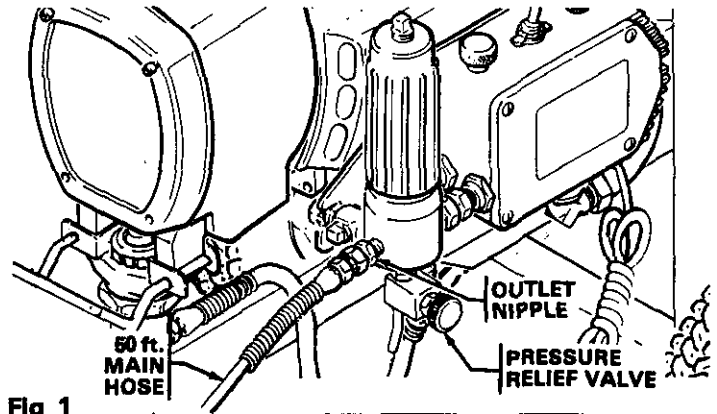

Fig 1
1. **Connect Hose and Gun (Refer to Fig 1.)**
- a. Close the filter's pressure relief valve. See Fig 1.